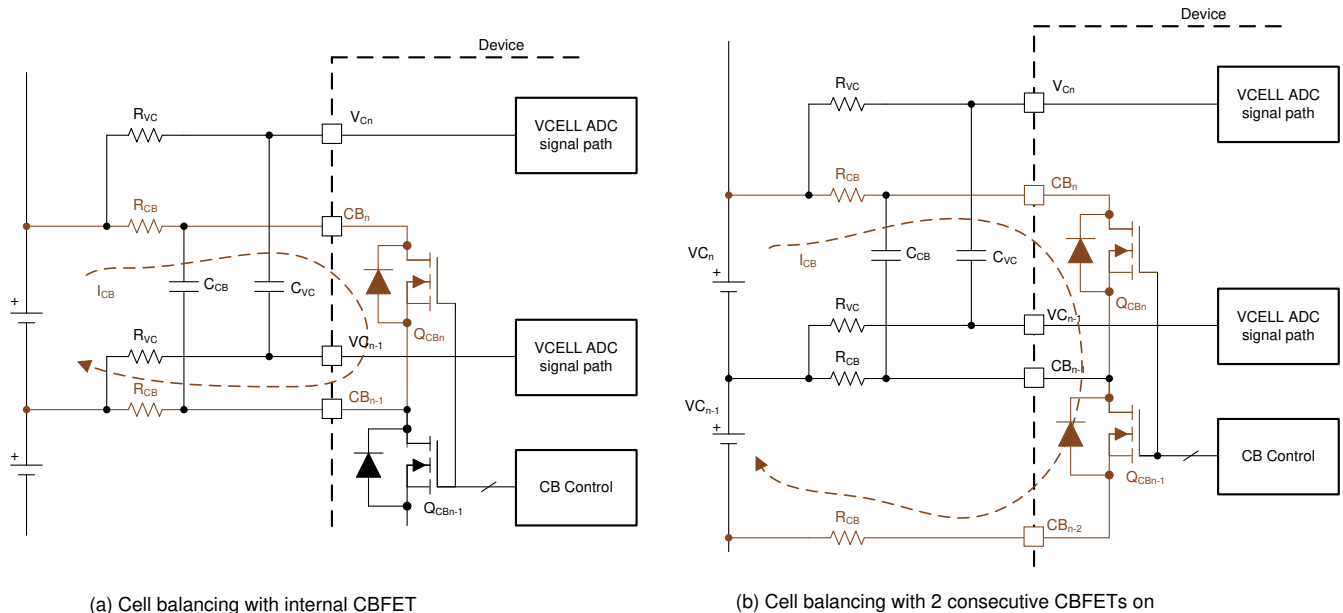

图 9-13. Internal Cell Balancing and the Flow of Balancing Current
- Balancing with no consecutive CBFET on (图 9-13 (a)): $I_{CB} = V_{Cell} / ((2 \times R_{CB}) + R_{ds(on)_{QCB}})$
- Balancing with two consecutive CBFETs on (图 9-13 (b)): $I_{CB} = (\text{Sum of two } V_{CELL}) / ((2 \times R_{CB}) + R_{ds(on)_{QCBn}} + R_{ds(on)_{QCBn-1}})$
- Manual balancing control ([AUTO_BAL] = 0): With this method, the device will turn on the CBFETs that have non-zero balancing timer settings once [BAL_GO] = 1 is received. There is no odd and even channel switching during the cell balancing and the BAL_CTRL1[DUTY2:0] setting does not apply under this control. Host MCU can enable two consecutive CBFETs with this method and a maximum of eight CBFETs can be enabled. When two consecutive CBFETs are enabled with both channels connected to battery cells, the balancing current is significantly different compared to no adjacent CBFET being on (图 9-13). The DEV_CONF[NO_ADJ_CB] bit is provided to avoid inadvertent enabling of an adjacent CBFET for a system that is not intended to have an adjacent channel on for balancing. In this control method, the device is relying on the MCU to enable the proper channels. If the MCU sends [BAL_GO] = 1 but the CBFETs are enabled with an invalid condition, the device will not start balancing and will set BAL_STAT[INVALID_CBCONF] = 1. Invalid configurations are either: